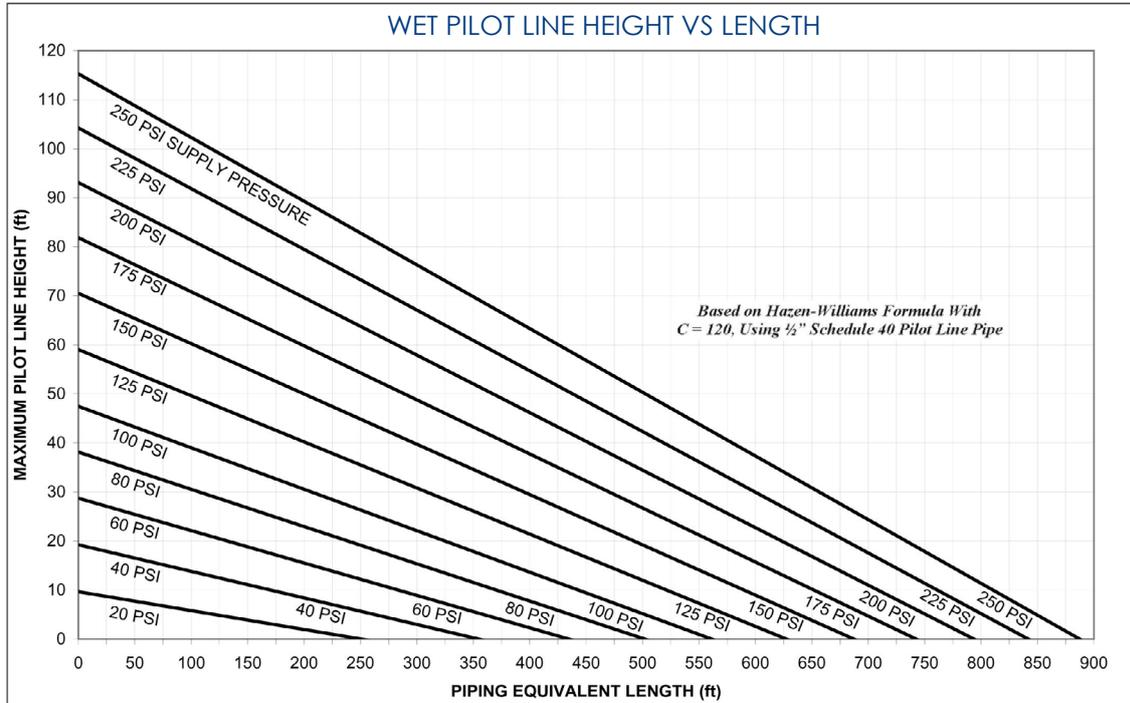

Fig. 3
- Maximum wet pilot line length and height must comply with data provided in Fig. 3.